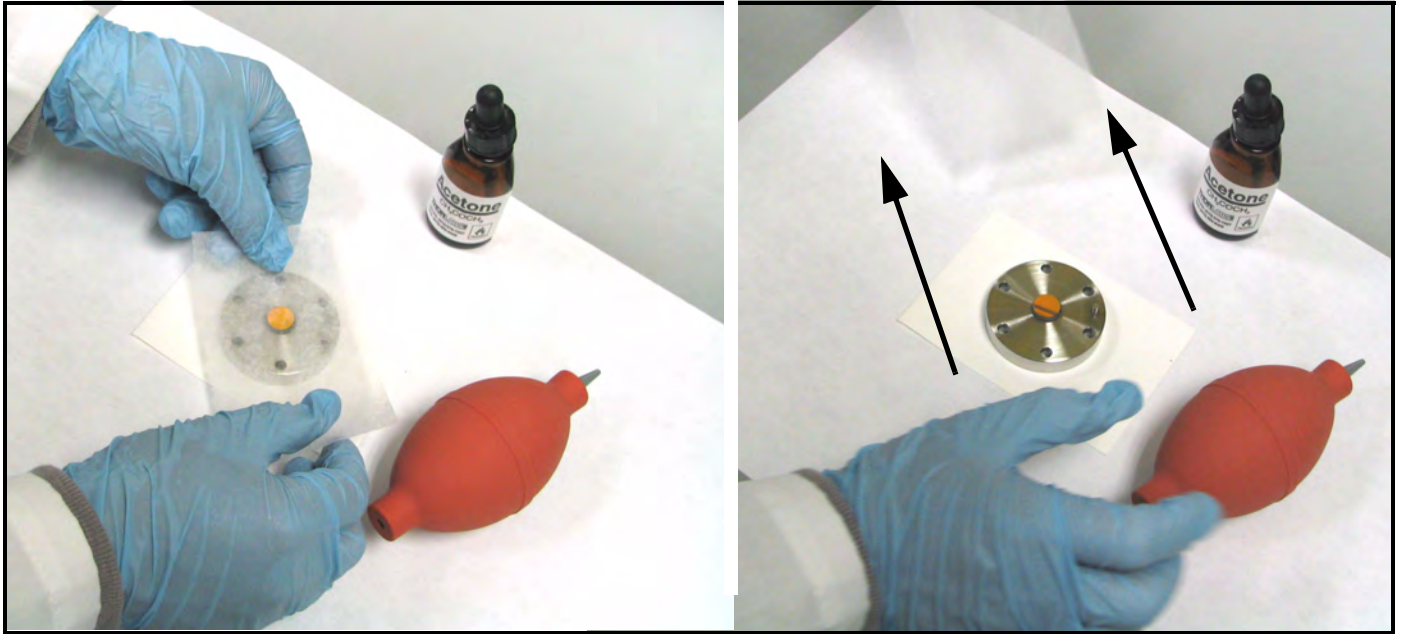

Figure 79: Dragging the Wet Lens Tissue Across the Mirror
- Place the wet lens tissue on top of the mirror and drag it horizontally across the surface of the mirror (see Figure 79).